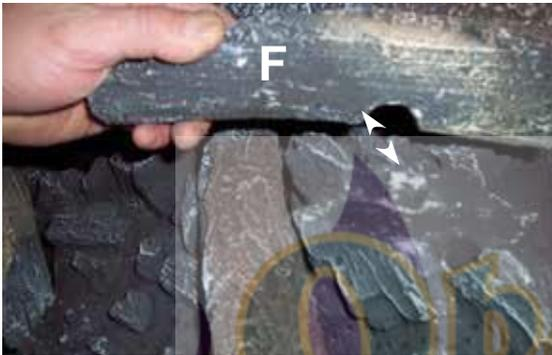

Figure 93: Log F Locator
- 8) Identify locator on Log F and opposing Locator on the Ceramic Log Burner as shown in Figure 93. Place Log F gently on Burner.